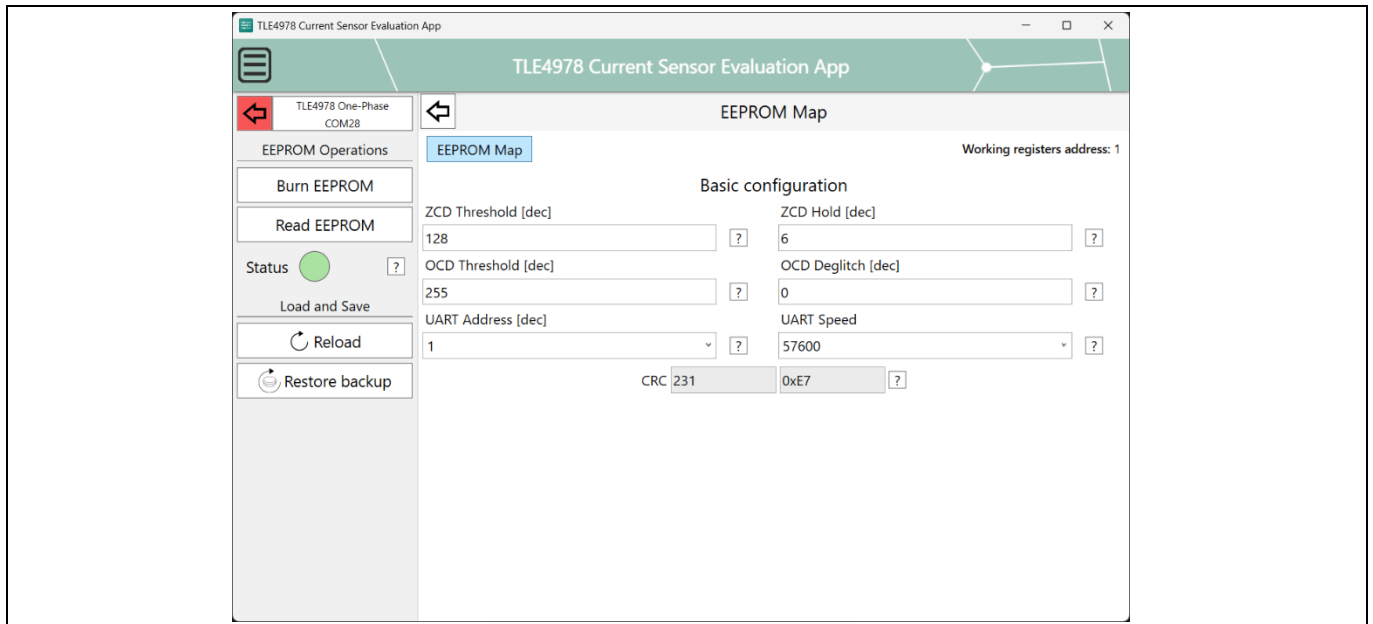

Figure 22 Software usage: EEPROM basic configuration
- **EEPROM Map:** the memory map is displayed, with all the user-accessible rows and bitfields. Clicking on a bitfield will update the description on the right. The user can write either in decimal or hexadecimal format. Refer to Figure 22
- **Basic configuration:** a simpler view which displays only the fields the user can modify. The content of the bitfields can be entered only in decimal format. Each field comes with a description tooltip that appears when the cursor is on top of the question mark button. Refer to Figure 22.